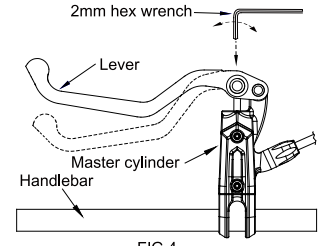

FIG.4
- Adjust the holding space between and lever to fit personal requirement by a 2mm hex wrench. (As shown in FIG.4).